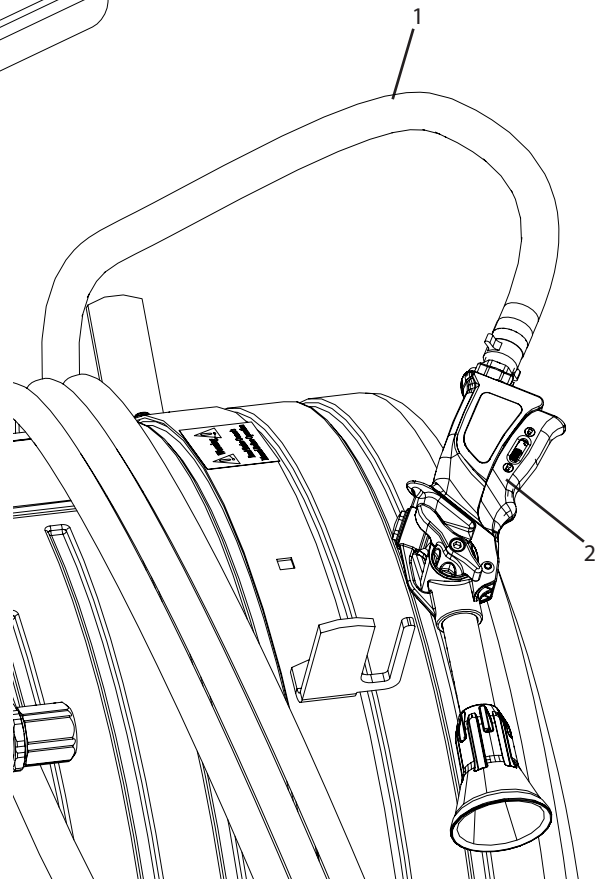

Figure 2
- Wrap the hose around the hose mounts on the tank and hook the spray gun onto the hose mount. (Figure 2)